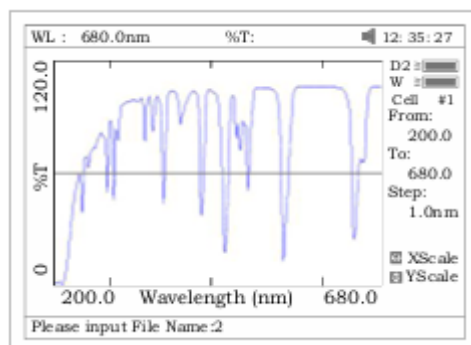

Fig.15
- Name the curve by pressing the numeric keypad (Fig 15) and press the key [ENTER] to confirm.